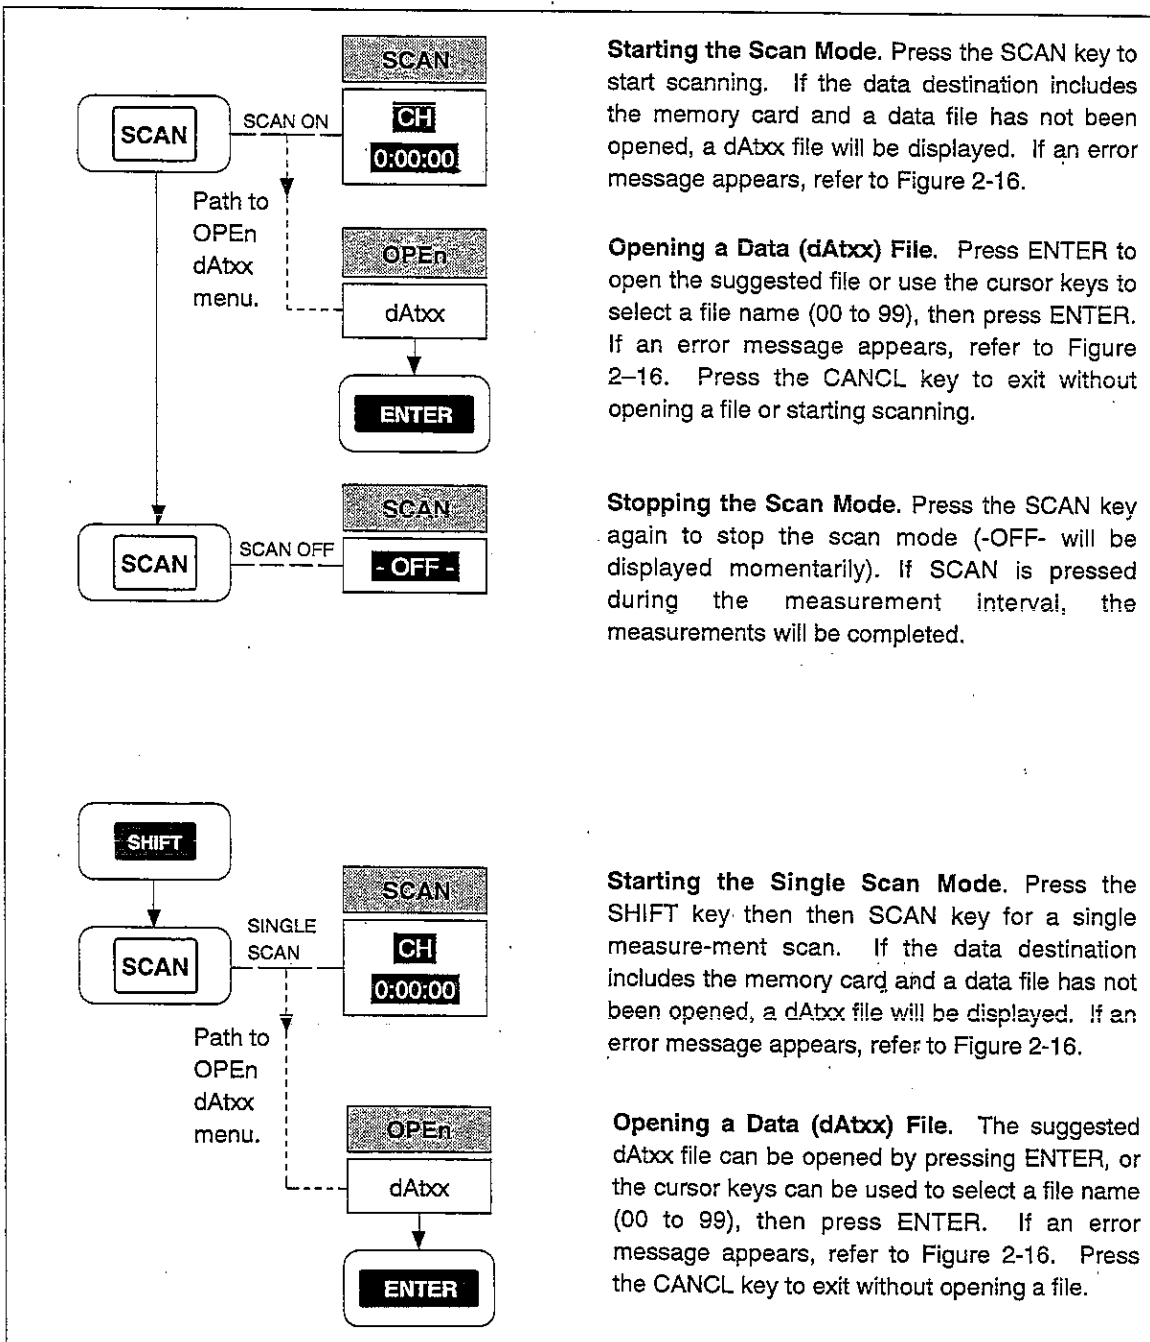
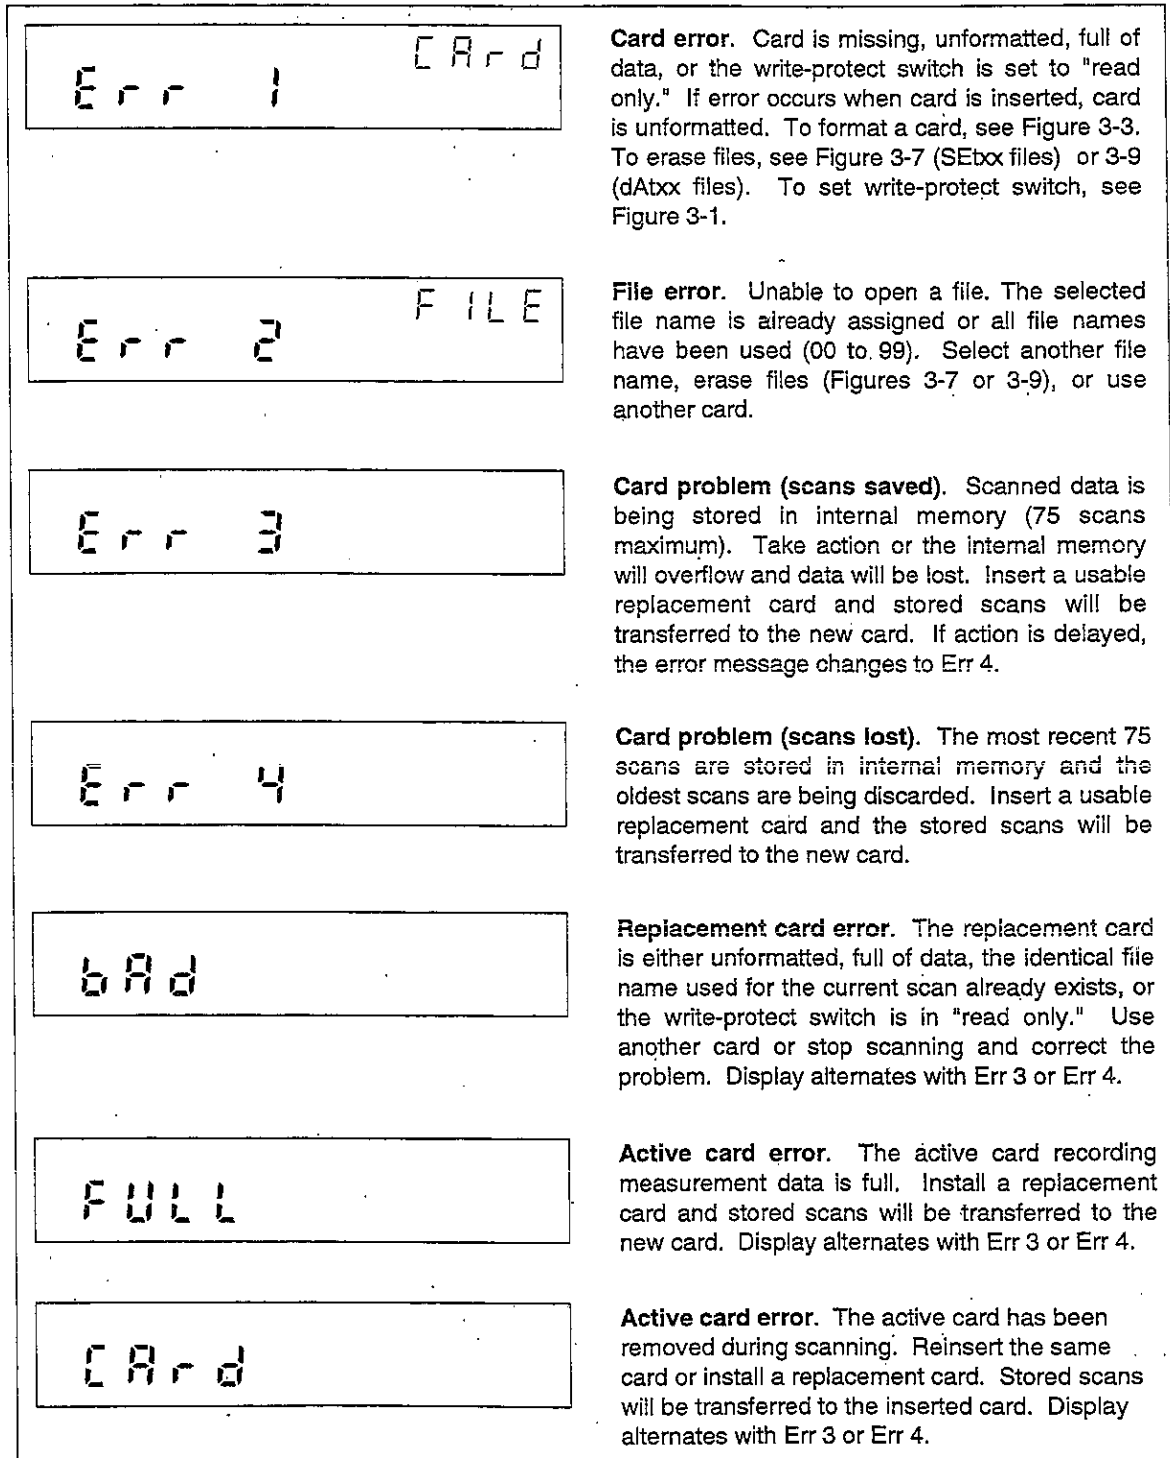
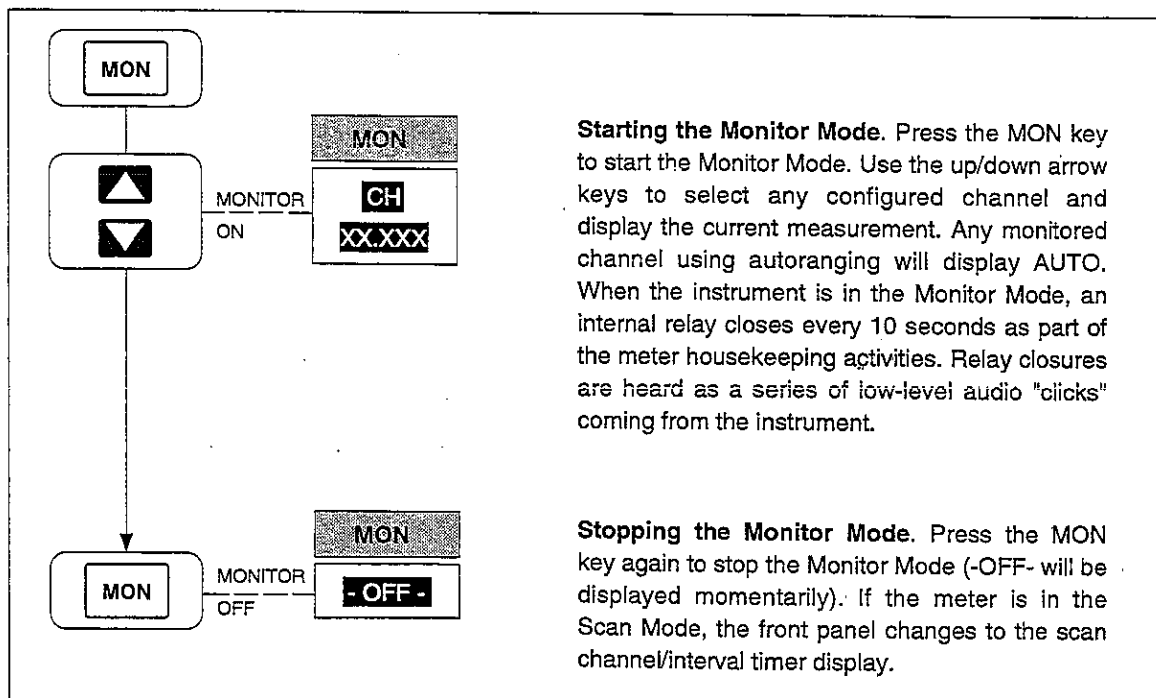
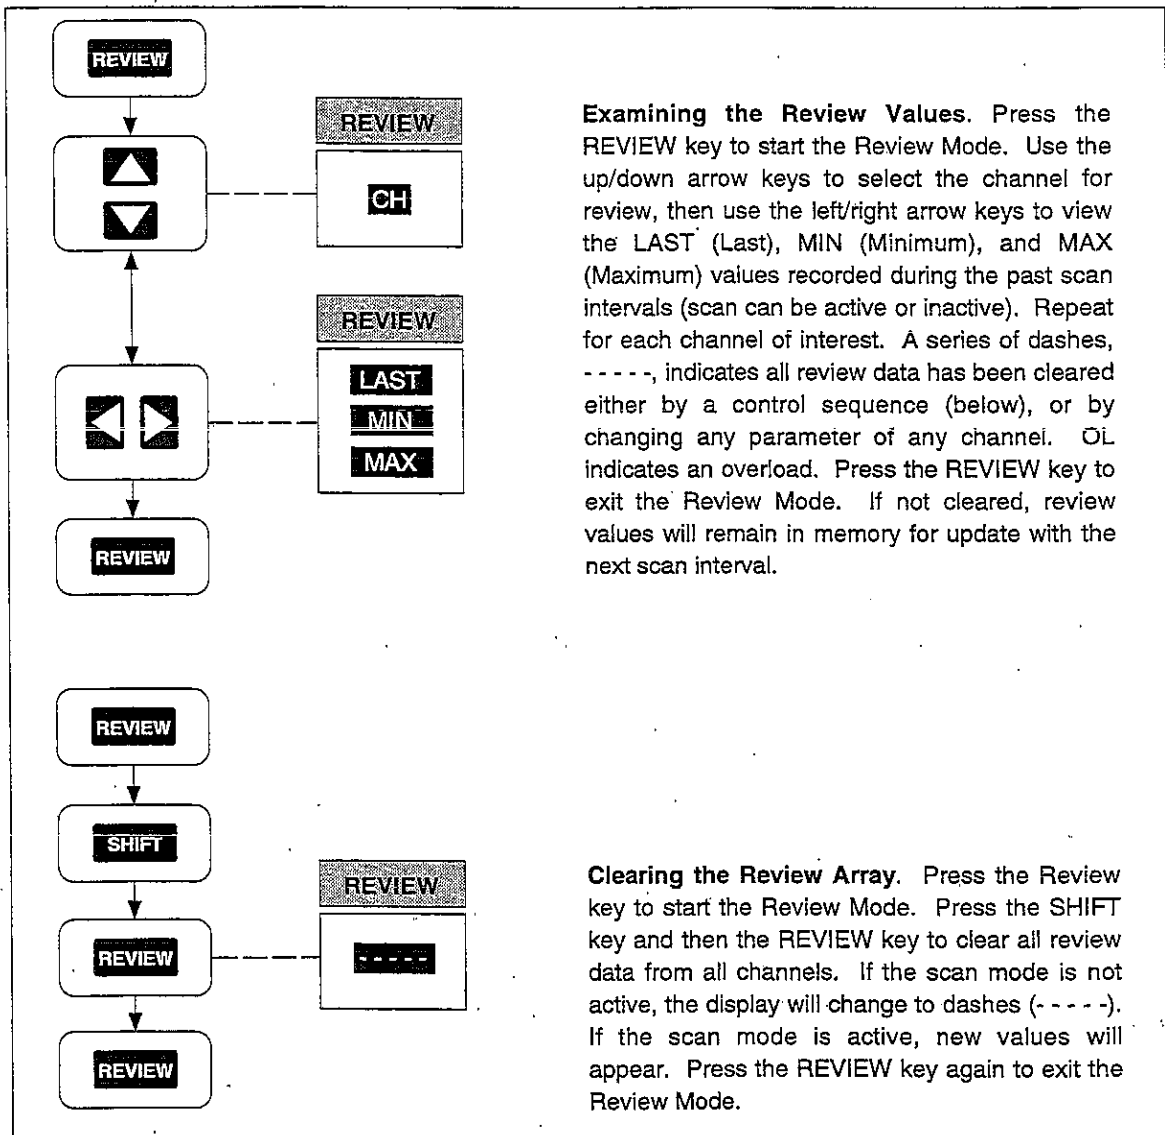

Figure 2-15. Using the Scan Mode
Figure 2-16. Memory Card Error Messages
Figure 2-17. Using the Monitor Mode
Figure 2-18. Using the Review Mode
If a scanned channel is in an alarm condition during the scan, the ALARM annunciator is turned on (dim display). If all alarm conditions clear during the next scan, the ALARM annunciator is turned off. See Figure 2-15 for information about the Scan Mode.
- Using the Scan Mode (Figure 2-15)
- Using the Monitor Mode (Figure 2-17)
- Using the Review Mode (Figure 2-18)
Perform the procedure in Figure 2-15 to start and stop the Scan Mode of operation. The Scan Mode can be started when the instrument is inactive, in Monitor (Figure 2-17), or Review (Figure 2-18). Measurement results can be sent to a memory card (see Section 3, "Memory Card Operations") and PC (see Section 4, "Computer Operations") or printer (see Section 5, "Printer Operations"). When using the Scan Mode with a memory card, consider each of the following topics. (Memory card error messages are summarized in Figure 2-16.)
Eject the active card when the BUSY indicator is off and replace with another card. The instrument opens the same file name on the new card. If this file cannot be opened, **Err 3/bAd** is displayed (see Figure 2-16). **Err 4/bAd** indicates the internal memory is full, saving only the most recent 75 scans. The new card is updated with the scans in memory.
Any illegal memory card operation results in a double "beep" and an error display as shown in Figure 2-16. If the instrument is scanning and in the Monitor Mode or Review Mode, only the double beep will be heard for a memory card error. Error messages are acknowledged by pressing the ENTER or CANCL key or by ejecting the memory card.
Perform the procedure in Figure 2-17 to start and stop the Monitor Mode of operation. The Monitor Mode can be started when the instrument is in the inactive mode or in the Scan Mode. The Monitor Mode commands the instrument to display the present measurement for any selected channel (except channels set to OFF) and to display alarm information if the channel is in alarm. If the Monitor Mode is used without the Scan Mode, the instrument operates like a multimeter. If the Monitor Mode is used with the Scan Mode, the instrument also operates like a multimeter but measurements can be recorded into memory, printed out, and reviewed (maximum, minimum, last values). The Monitor-Alarm triggering option uses the Monitor Mode to start or stop scans when a selected channel goes into or out of alarm (see Figure 2-19). If the instrument is in the Monitor Mode and scanning using the memory card, any illegal memory card operations are noted only with a double "beep." When you hear a double beep, exit the Monitor Mode and investigate the memory card error (see Figure 2-16).
Perform the procedure in Figure 2-18 to operate the Review Mode of operation. The Review Mode is used any time during or after operation of the Scan Mode. While the instrument is in the Scan Mode, the last, maximum, and minimum measurements for each scanned channel are stored in memory and updated with each scan, forming the Review Array. For example, during scan operations, review can be used to monitor the maximum measurement of a channel in real time. The Review Array is cleared by a control sequence (see Figure 2-18 below), or by changing any parameter of any channel or the measurement rate. The Review Array can be printed out using the LIST key (see Figure 5-4). If the instrument is in the Review Mode and scanning using the memory card, any illegal memory card operations is noted only with a double "beep." If a double beep is heard, exit the Review Mode and check the memory card error (see Figure 2-16).
To verify the equipment setup when the memory card is used to record data, use the Single Scan mode (see Figure 2-15) to record a single scan. Any problems with the memory card or setup can be observed and corrected. If a triggering option triggers scanning without an open memory card dAtxx file, the instrument will automatically open a file when a usable memory card is in the instrument. If no memory card is installed or the memory card is not usable, the most recent 75 scans are saved in an internal memory. To record the saved scans, insert a usable memory card and open a file (see Figure 3-8). The stored scans will be transferred to the card.